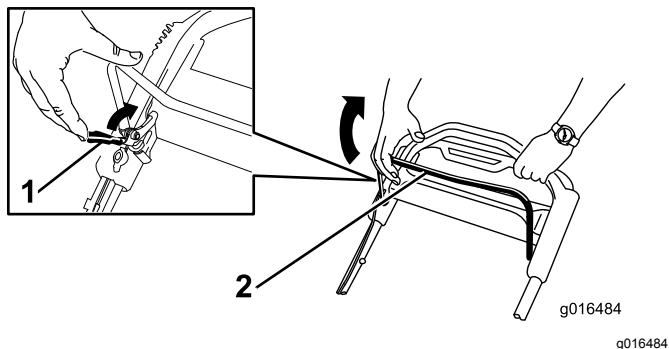

Figure 20
- Pull the blade-control-bar lock back to the blade-control bar (Figure 20).
- Slowly** pull the blade-control bar back to the handle (Figure 20).